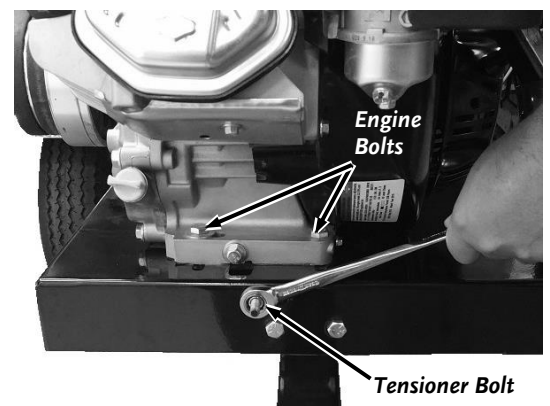

Figure 43
4. Loosen the four Engine Bolts (two on the left side and two on the right side) (**Figure 43**).
8. If the measurement is not correct, tighten or loosen the Tensioner Bolt as needed (**Figure 43**).